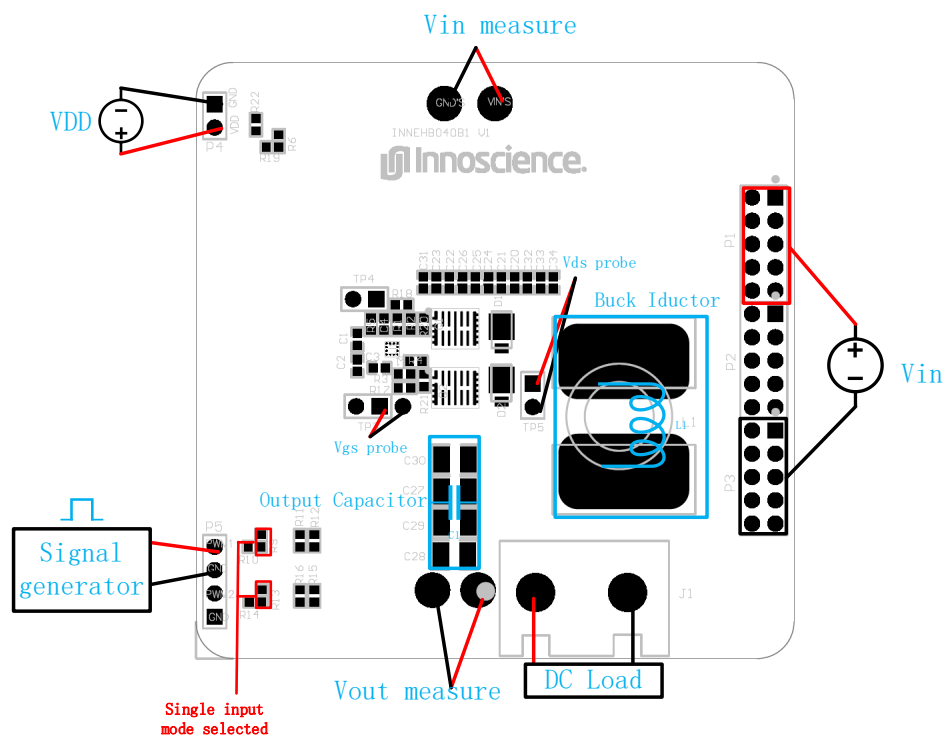

Figure 6 Single-PWM input Buck mode
2. Connect the DC voltage source to VIN terminal **P1** and common ground GND terminal **P3**, as shown in Figure 6 (Pay attention to the polarity).